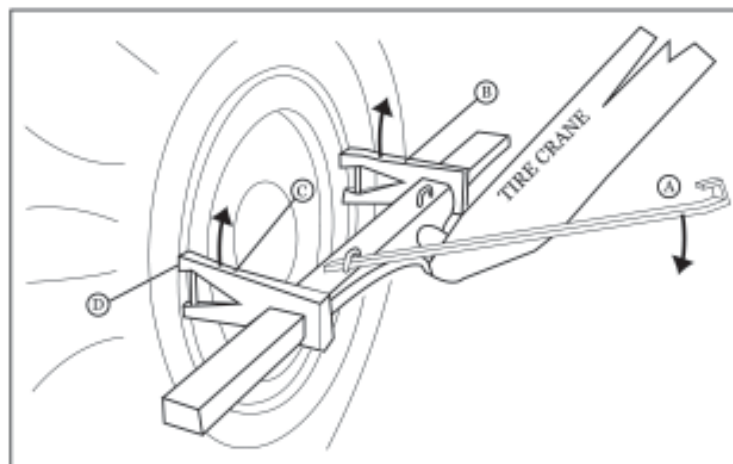

Figure 1
2. When the #90200 bar is attached to the end of the tire crane, it will swing down with the feet pointing to the ground. As you lift the bar with the crane, insert a lever bar **(A)** or a tire tool (Ken Tool #T23A) per **Figure 1**. As you raise the tire crane, push down on the lever bar **(A)** to align the bar and the feet from 9 o'clock to 3 o'clock. Once you have the alignment, release the lever bar **(A)** and allow the feet to point toward the ground.